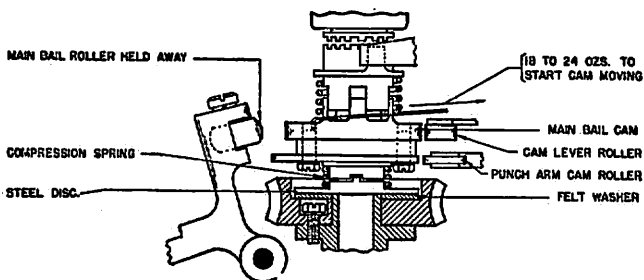

Fig. 58
**4.99 Main Bail Cam Friction Clutch Torque:** After motor has been run for at least 10 minutes a pull of 24 ozs. applied to main bail cam as in Fig. 58 shall move cam in a direction opposite normal rotation when motor is running, selector magnet is operated and main bail roller is held away from its cam. A pull of 18 ozs. applied under the same conditions shall not move cam.